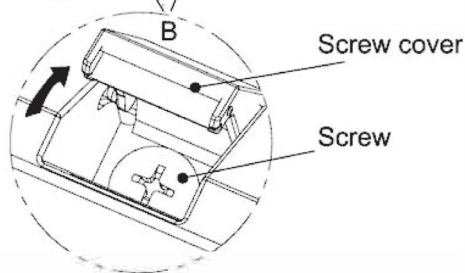

Fig.C.7.3
- 3) In the B position, open the screw covers as shown in Fig. C.7.3 and remove the screws. (Note: For some models, you need to remove 3 screws.)